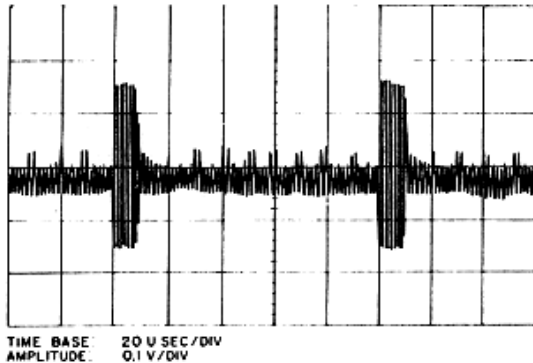

Figure 6.18 – Terminal E89 Waveform
l. Reconnect oscilloscope to terminal E89. The observed 10 kHz spectrum waveform should resemble the one shown in figure 6.18.